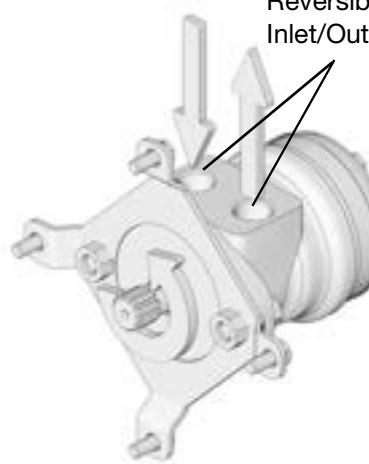

FIG. 17
**NOTE:** When the reel is powered the spool should wind in the direction that allows the hose to wind up onto the spool. The factory default reel configuration is counter-clockwise rotation of the motor when viewed from the motor side of the spool (end opposite the motor shaft). See FIG. 17.